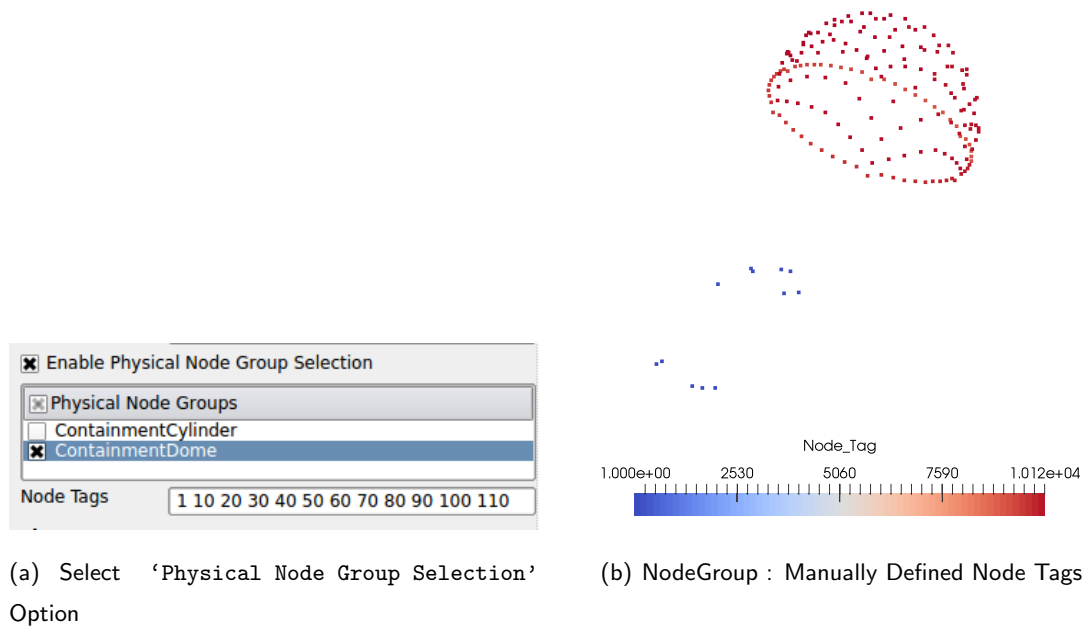

Figure 1.30: Visualization of physical node group manually defined using PVESIRReader option.
6. **Node Tags** - This options provides user and interface to manually write node tags to be visualized. The user should enter the node tags against this option as a integer list separated by space. For example:- '2 10 12 13 16', where each of the number corresponds to the node tag defined in the model. Again, this option would only work if **Enable Physical Node Group Selection** option is checked. Figure 1.30 shows steps to visualize nodes defined manually.